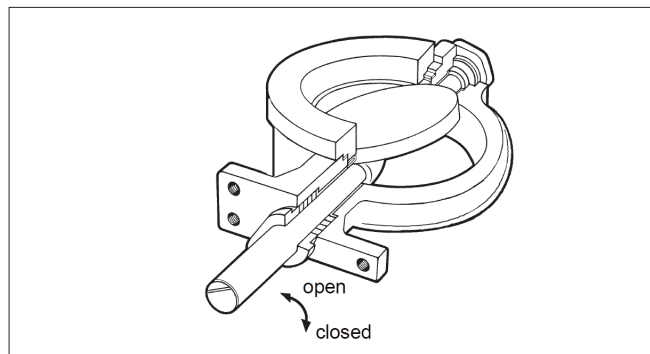

Fig. 14 Open and closed positions of the valve
The marking line parallel to the disc on the valve shaft head shows roughly the closed position of the disc (see Fig. 14). Pressure shocks can cause loosening of the pin connection between disc and shaft; consequently the shaft moves while the disc remains in place and this prevents full closing of the disc. If the reason for the leakage does not become apparent after doing the above, the valve must be disassembled for replacing the parts.
- Check the position between the seat ring and the disc. The valve closes clockwise (see Fig. 14).
- Press the shafts into the disc drillings. Align the pin holes. The shaft (5) position against the disc must be according to Figure 14.
- Install the gasket (31) and the blind flange (8). Screws of the blind flange must be tightened evenly. An unevenly tightened flange will damage the gasket.
- Install the body gasket (32) and the clamp ring (2). See details in Section 5.5.
- Check the contact line between the seat ring and the disc (see Fig. 14).